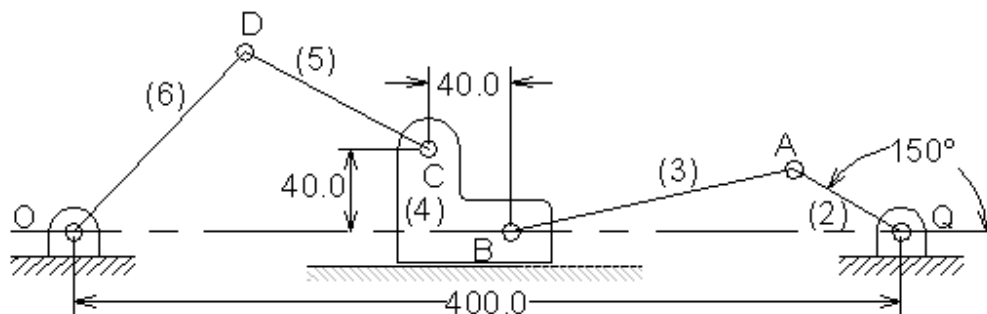

Figure P2.46
2.46 The crank OA of the mechanism shown in Figure P2.46 with a uniform speed of 10 rad/s clockwise. Find the angular velocity and the angular acceleration of link (6) analytically.